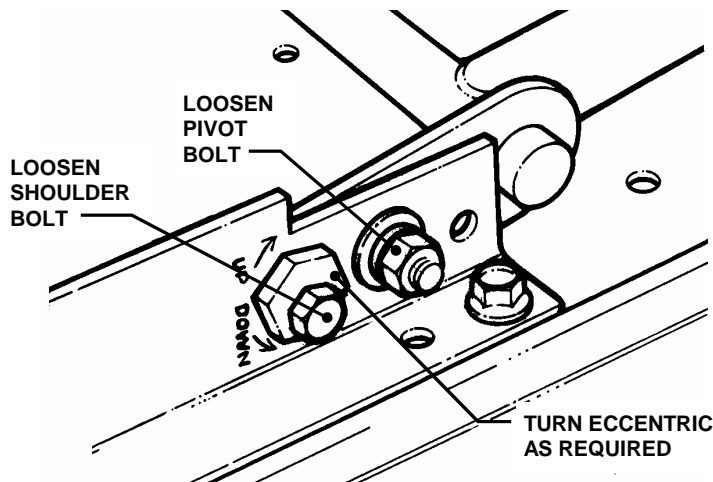

FIGURE 4.3
- g. Turn eccentric "UP" or "DOWN" as required until blade tips are within 1/8" of the same distance from the floor. See Figure 4.3.